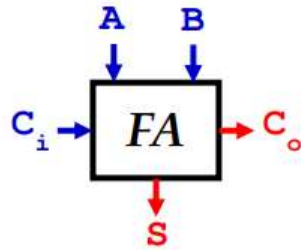

Figure 2: Full Adder
Figure 2 shows a Full Adder (FA) symbol. Here **A**, **B**, and **C_i** are inputs. **S** and **C_o** are outputs.